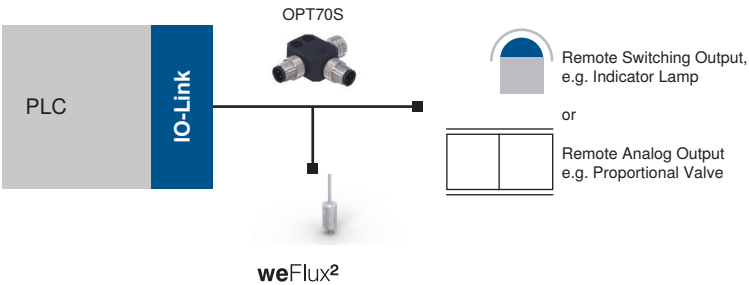

Figure 1: Wiring With Remote Output Function
- See figures 1 and 2 below with regard to wiring and connection.